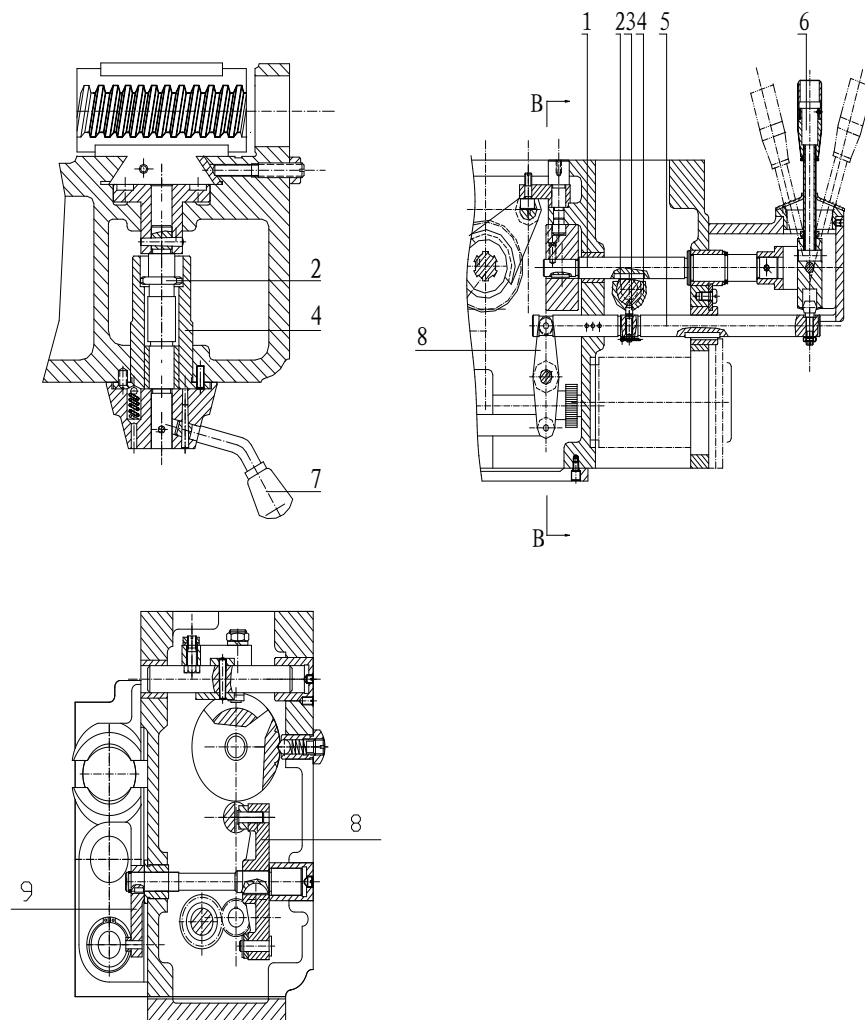

Fig. 26 Interlocking mechanism of limit touch-stop feed rod and leadscrew.
In order to prevent the feed rod and the leadscrew from driving the apron at the same time, resulting in accident due to interference with each other, the apron is provided with protection mechanism in it. When the control handle (6) controls the apron moving in any one of left, right, front and rear directions, the shaft (1) rotates on or the shaft (5) moves toward right or left to make the groove, on the shaft (1), aligned originally with the cam (2) or the hole on the shaft (5) which is the opposite of the pin (3) stagger each other. Owing to the fact that the cam shaft (2) does not rotate, the split nut cannot close. Thereby, ensuring that the split nut cannot close when the handle (6) is at any one of left, tight, front and rear positions to avoid accident, conversely, if rotating cam shaft (2) make the split nut closing, the cam is inlaid into the groove of shaft (1) and the pin (3) is also squeezed in the hole of shaft (5), too, the control shaft (6) is locked at neutral stop position. Power is not transmitted into the apron through the feed rod or the rapid motor. Thus, the mechanism mentioned above ensures that the handle (6) and the handle (7) of the split nut work only at one working position, thereby, ensuring that the feed system can normally work without any trouble (see Fig. 26).